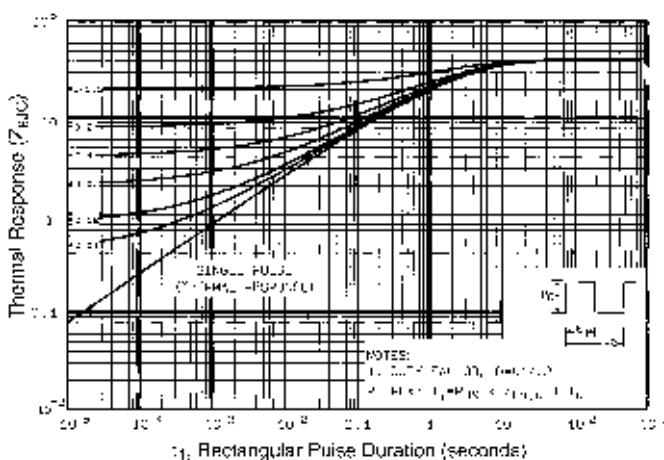

Fig 11. Maximum Effective Transient Thermal Impedance, Junction-to-Case
① Repetitive rating; pulse width limited by max. junction temperature (See Figure 11)
② $I_{DS}=1.0\text{A}$, $dV_{DS}/dt=75\text{A}/\mu\text{s}$, $V_{GS}=V_{DS}=0\text{V}$, $T_J=150^\circ\text{C}$